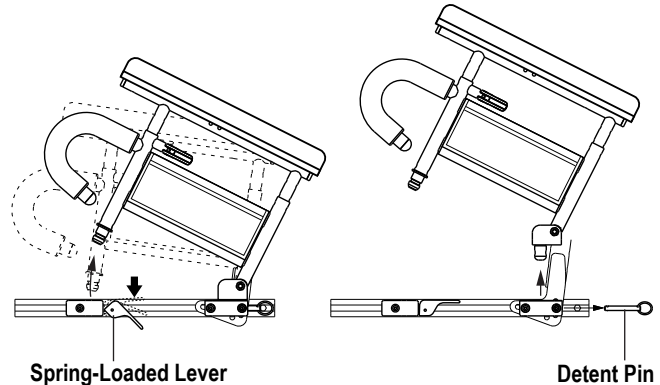

Figure 9. Two Post Armrest Removal and Installation
The height adjustment range for the Two Post Armrest is 9–13 in. (22.9–33 cm) in 1-in. (2.54-cm) increments. This range is measured from the top of the seat rail to the top of the arm pad. You can also flip up the armrests or remove them for transfer. **See figure 9.**
1. Push the spring-loaded lever downward and pull up on the front of the armrest. **See figure 9.**
2. Remove the detent pin from the back of the seat. **See figure 9.**
1. Set the rear of the armrest into the rear seat receiver and install the detent pin. **See figure 9.**